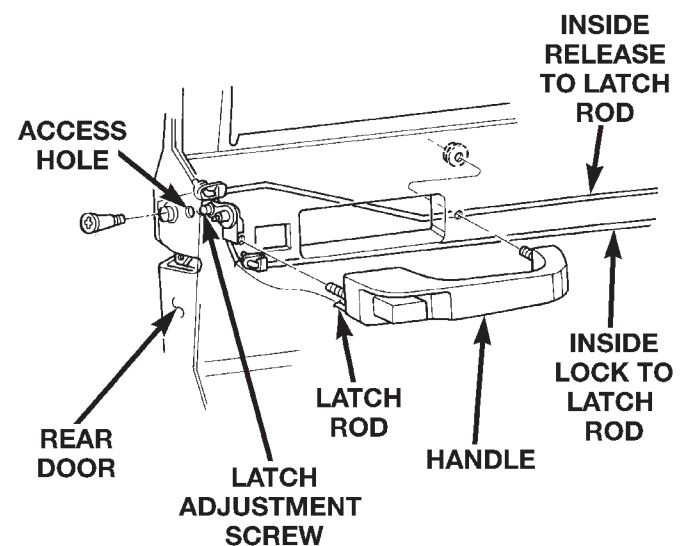

Fig. 52 Rear Door Latch
- (1) Remove access plug.
- (2) Remove door trim panel.
- (3) Remove waterdam.
- (4) Remove screws attaching door latch to door (Fig. 52).
- (5) Disconnect all rods from door latch.
- (6) Remove door latch from door.